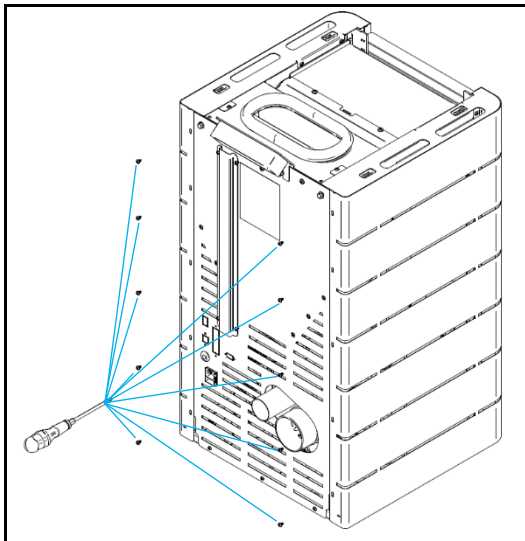

Figure 25 - Attaching the side casings
e) Secure the side casings to the back of the unit using 10 screws from the kit, as shown in Figure 25.